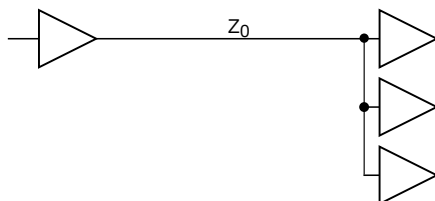

Figure 4.6 Impedance of trace
- When the output of a CMOS logic IC drives multiple CMOS logic ICs, the output trace should be fanned out close to the driven ICs. (Figure 4.6).